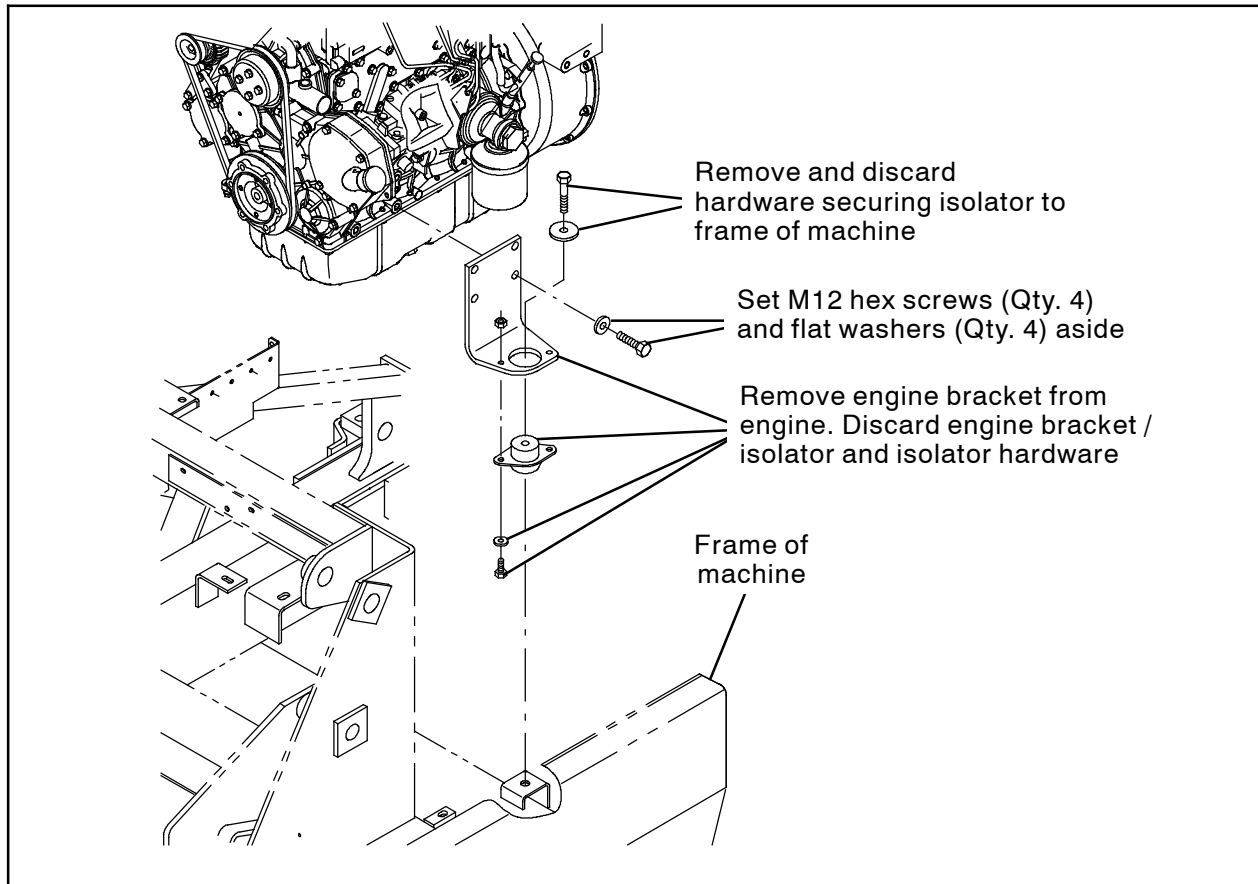

FIG. 2
4. Remove and discard the hardware securing the isolator / engine bracket to the frame of the machine. (Fig. 2)
5. Remove the engine bracket from the engine. Set the M12 hex screws (Qty. 4) and the flat washers (Qty. 4) aside. Discard the engine bracket / isolator and isolator hardware. (Fig. 2)